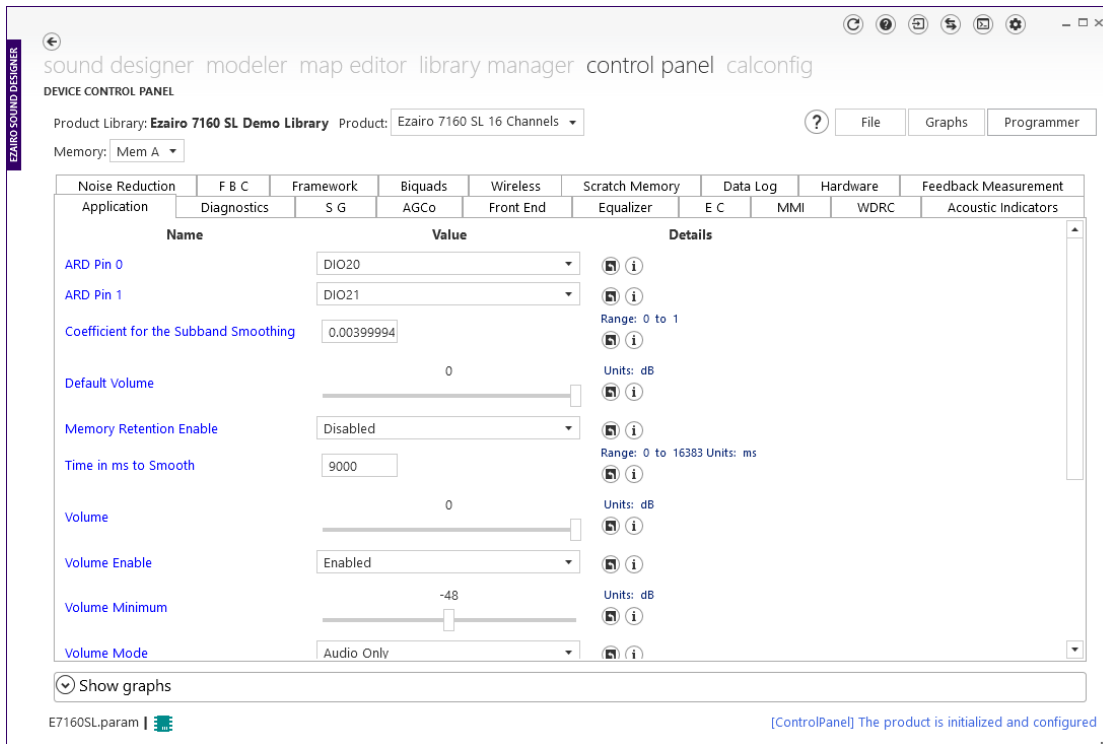

Figure 12. Successful Connection
10. Once the connection succeeds, the connection status symbol appears to the right of the file name, as shown below in Figure 12 on page 18. You can hover over this symbol to view the programmer name and the firmware ID of the device. It is now possible to configure the device parameters.